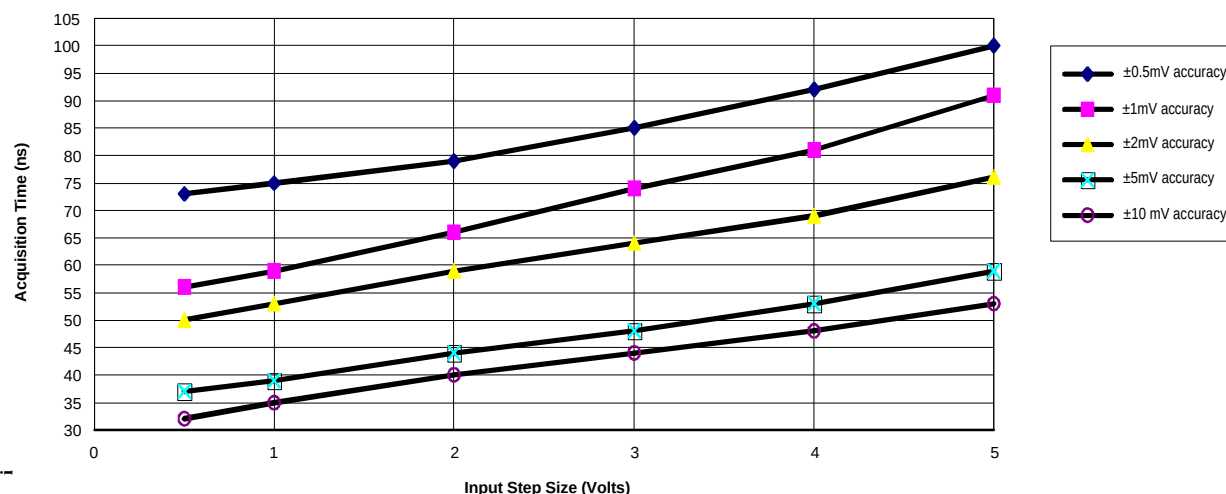

Figure 4. Acquisition Time versus Accuracy and Step Size
① Pins 3 and 4. ② See Figure 4 for relationship between input voltage, accuracy, and acquisition time. ③ Pins 6 and 22.
6. See Figure 4 for acquisition time versus accuracy and input voltage step amplitude.
As shown in the plot (Figure 4) of acquisition times vs. input signal step size, the S/H's internal to the CDS-1402 acquire smaller-amplitude signals quicker than they acquire larger-amplitude signals. In "maximum-throughput" applications, assuming "asymmetric" timing can be accommodated, each S/H should only be given the time it requires, and no more, to acquire its input signal. Leaving a S/H amp in the sample mode for a longer period of time has little added benefit.